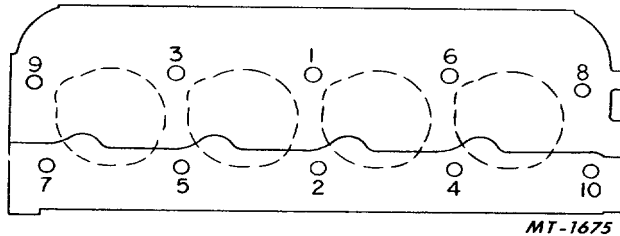

Fig. 156 Cylinder Head Mounting Bolt Tightening Sequence
25. Tighten the cylinder head bolts alternately and evenly in sequence as illustrated in Fig. 156 to the torque shown in "TORQUE CHART." Repeat this operation on the opposite cylinder head. The embossed steel